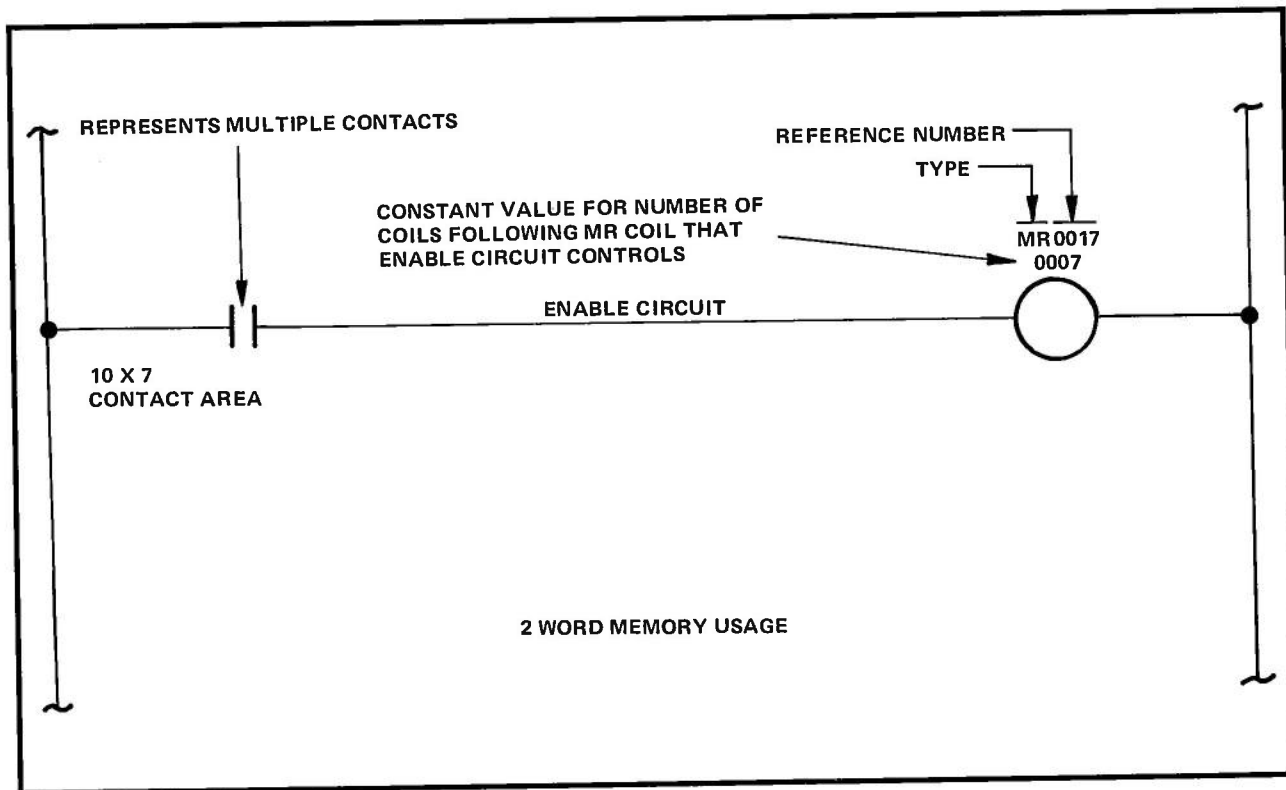

Figure 1. Master Control Relay (MR)
The Master Control Relay (MR) function is also a powerful programming tool. This function provides an "internal OFF" operation, disabling all or part of the programmed reference ladder diagram. MR function symbology is shown in Figure 1.